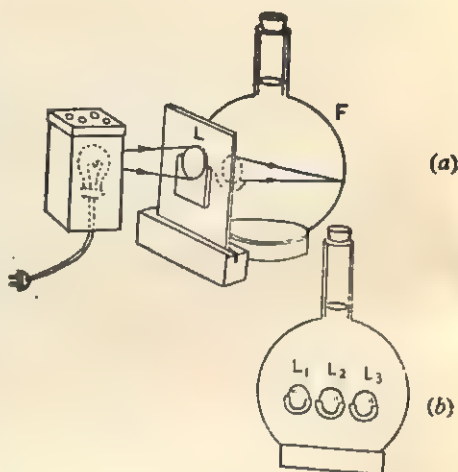

Fig. 11.5. Experiment to study the eye defects and their corrections.
**Theory.** This is an important demonstration in which students can see the path of light rays in a model of an eye made in a round bottom flask  $F$  containing fluorescein solution as shown in Fig. 11.5 (a). The model shows a **Normal** eye looking at a small luminous object, say a small opening in the compact light source. This image of the luminous point is formed with the lens  $L_1$  Fig. 11.5 (b) at the retina  $R$ . The path of the convergent beam is interesting to see. Now with a change of the lens ( $L_2, L_3$ ), the luminous object may be made to focus either in front of  $R$  or farther from  $R$  which means now the eye becomes **Short-Sighted** or **Long-Sighted** respectively.
The lens  $L_1$  for **Normal Eye** should have a power of +8 Dioptre, the lens  $L_2$  for **Short-Sighted** eye should have a power of +11 D and the lens  $L_3$  for **Long-Sighted** eye should have a power of +5.5 D. In order to facilitate the change from one model to another, the three lenses  $L_1, L_2, L_3$  should be attached side by side along the horizontal equator of the flask with the help of plasticine as shown in Fig. 11.5 (b). Then, rotating the flask by its vertical neck will bring one lens after another into play.
**Procedure.** (1) Fix the lens  $L_1, L_2$ , and  $L_3$  on the flask as shown in Fig. 11.5 (b). Fill the flask with very dilute solution of fluorescein and then place the flask on a cork ring as stand. To view the rays clearly, the solution must be dilute.
(2) Set up the light source such that a small luminous opening acts as the object to be viewed. Erect the card with hole in it,
Rotate the flask until the  $+8\text{ D}$  lens ( $L_1$ ) is behind the hole and arrange the light source to lie in level with the hole and the centre of the flask  $F$  as shown in Fig. 11.5 (a). Move the light source until a sharp image of the luminous hole is formed at the point  $R$  on the surface of the flask. A small piece of wet paper may be put on the surface of the flask (on the back of  $R$ ) to make the image on the retina  $R$  easily visible.